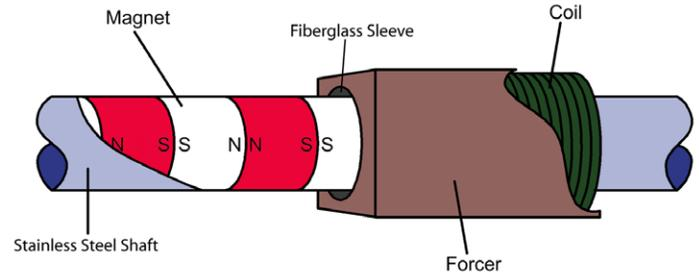

Figure 1
- The magnetic portion is inserted into a protective stainless steel tube. This is shown in **Figure 1**. This is a patented process which is protected by numerous patents throughout the world.
- The magnetic portion is then inserted into a protective stainless steel tube. This is shown in **Figure 1**.